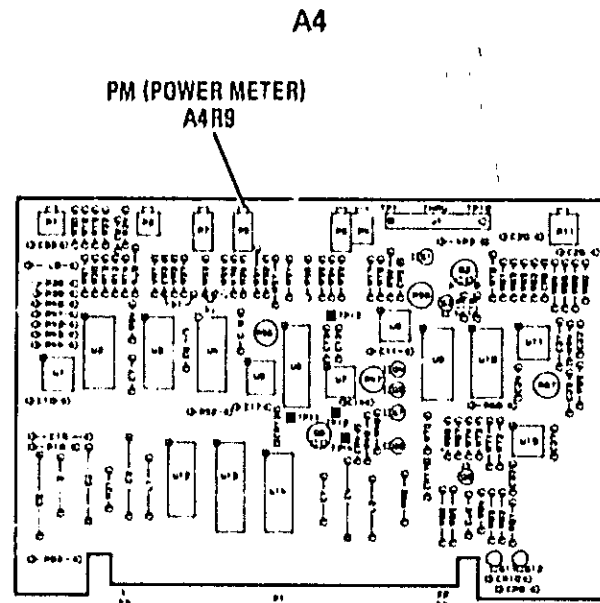

Figure 5-24. Power Meter Leveling Adjustment Location
4. Increase the 83522A **POWER LEVEL** by exactly 5.0 dBm. Adjust A4R9 "PM" (Figure 5-24) for a power meter reading of 0 (83522A front panel power indication should be approximately +10 dBm).